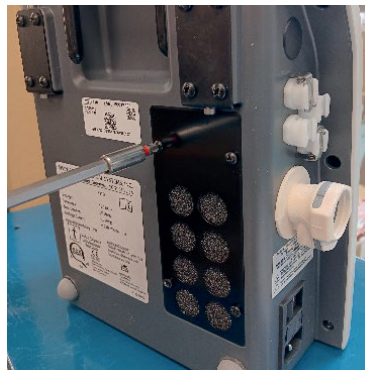

Figure 1
- The smaller, inner filter is designed to be removed, cleaned, and re-used. [Fig. 1 & 2]
1. Turn unit OFF. Remove the screws on the filter housing plate, which is found at the bottom rear of the control unit [Figure 1].